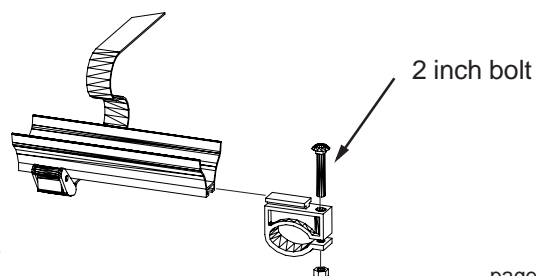

Figure 4C
4.5. Install the wheel trays - and riser blocks if needed. Do not over tighten the nuts on the WTMCs. Install the wheel straps onto the wheel trays. See Fig 4C.